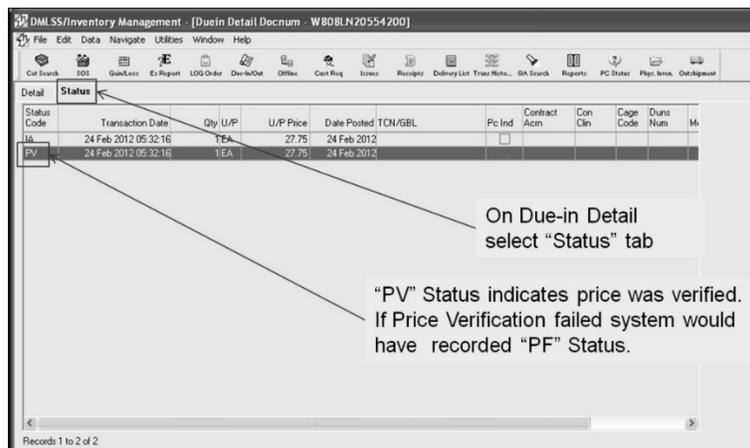

Figure 29. Price Verification Status
a. This process is attempted five times upon receipt of a PV purchase order confirmation file. After this file is received, DMLSS transmits an automatic transmission price challenge to DLA Troop Support via the Price Lookup Web Service. The results of this lookup are recorded in the Due-In detail and displayed in the “status” tab with a status code of “PV” for Price Verified, or “PF” for Price Verification Failed (Figure 29).